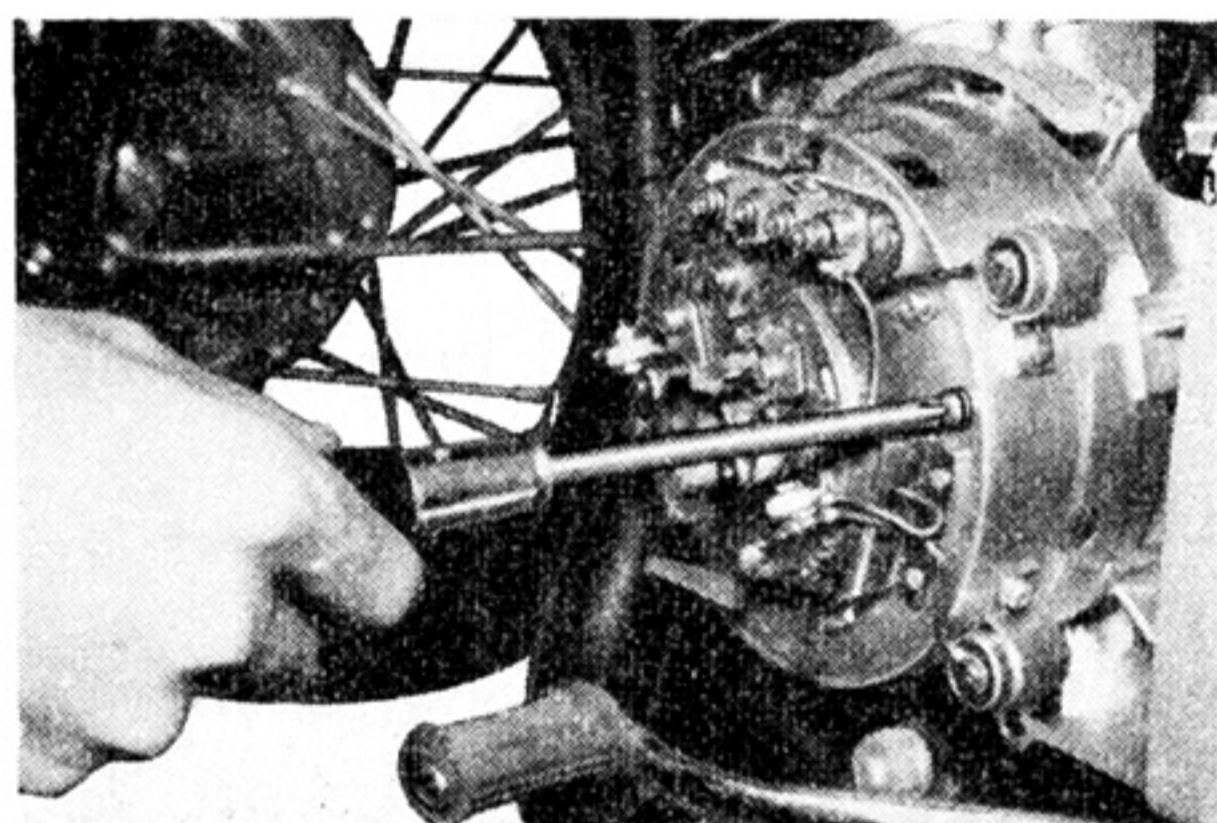

Fig. 3-1-5
(2) Remove the yoke ass'y, (Fig. 3-1-5)